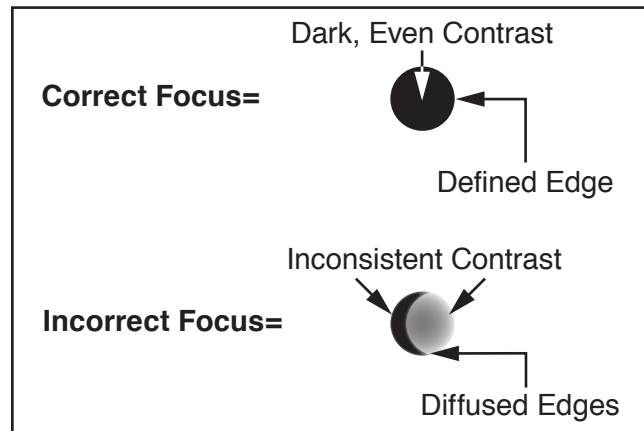

Figure 114. Focal point alignment examples.
29. Verify Mirror #3 and focal point alignment by pressing Pulse button on control panel. Compare results with **Figure 114**.
4. With help from an additional person, rotate thumbscrews behind reference laser until laser beam focal point matches "Correct Focus" example as shown in **Figure 114** on **Page 75**.